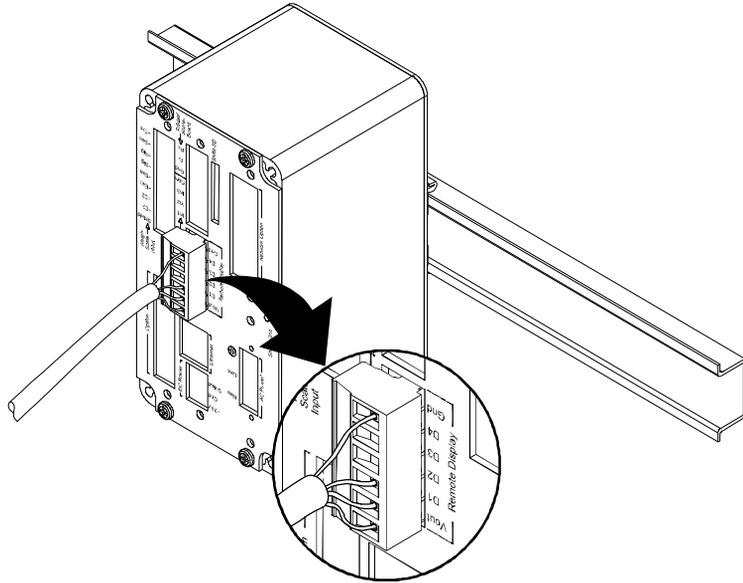

FIG. 12 REMOTE DISPLAY ONLY AT REAR PANEL
Step 1. Use any 4 wire (Shielded) cable (Min 22 AWG) or if you are using a 6 wire cable do not connect to terminals D3 & D4 on either or both ends of the Remote Display cable. (See Figs. 12 & 13)
Step 4. Plug the connector into the Electronic Enclosure Rear panel header. (See Fig. 12)